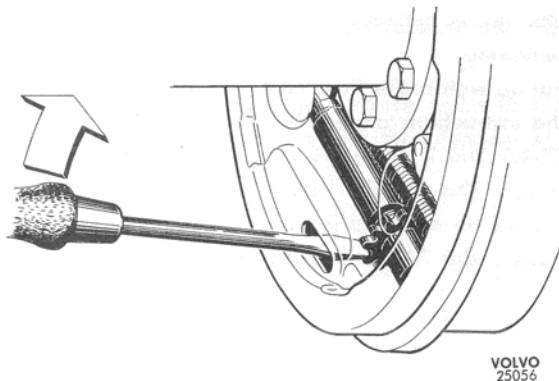

Fig. 22. Adjusting the wheel brake unit
2. Remove the rubber seal. Rotate the wheel in its **normal direction of rotation** (not forwards and backwards) while the brake shoes are placed against the brake drum with the help of the adjusting screw. To turn this screw, use a screwdriver or tool as shown in Fig. 22. When it is just possible to turn the wheel by hand, discontinue applying the shoes. Then turn back the adjusting screw 12 notches. Fit the rubber seal.